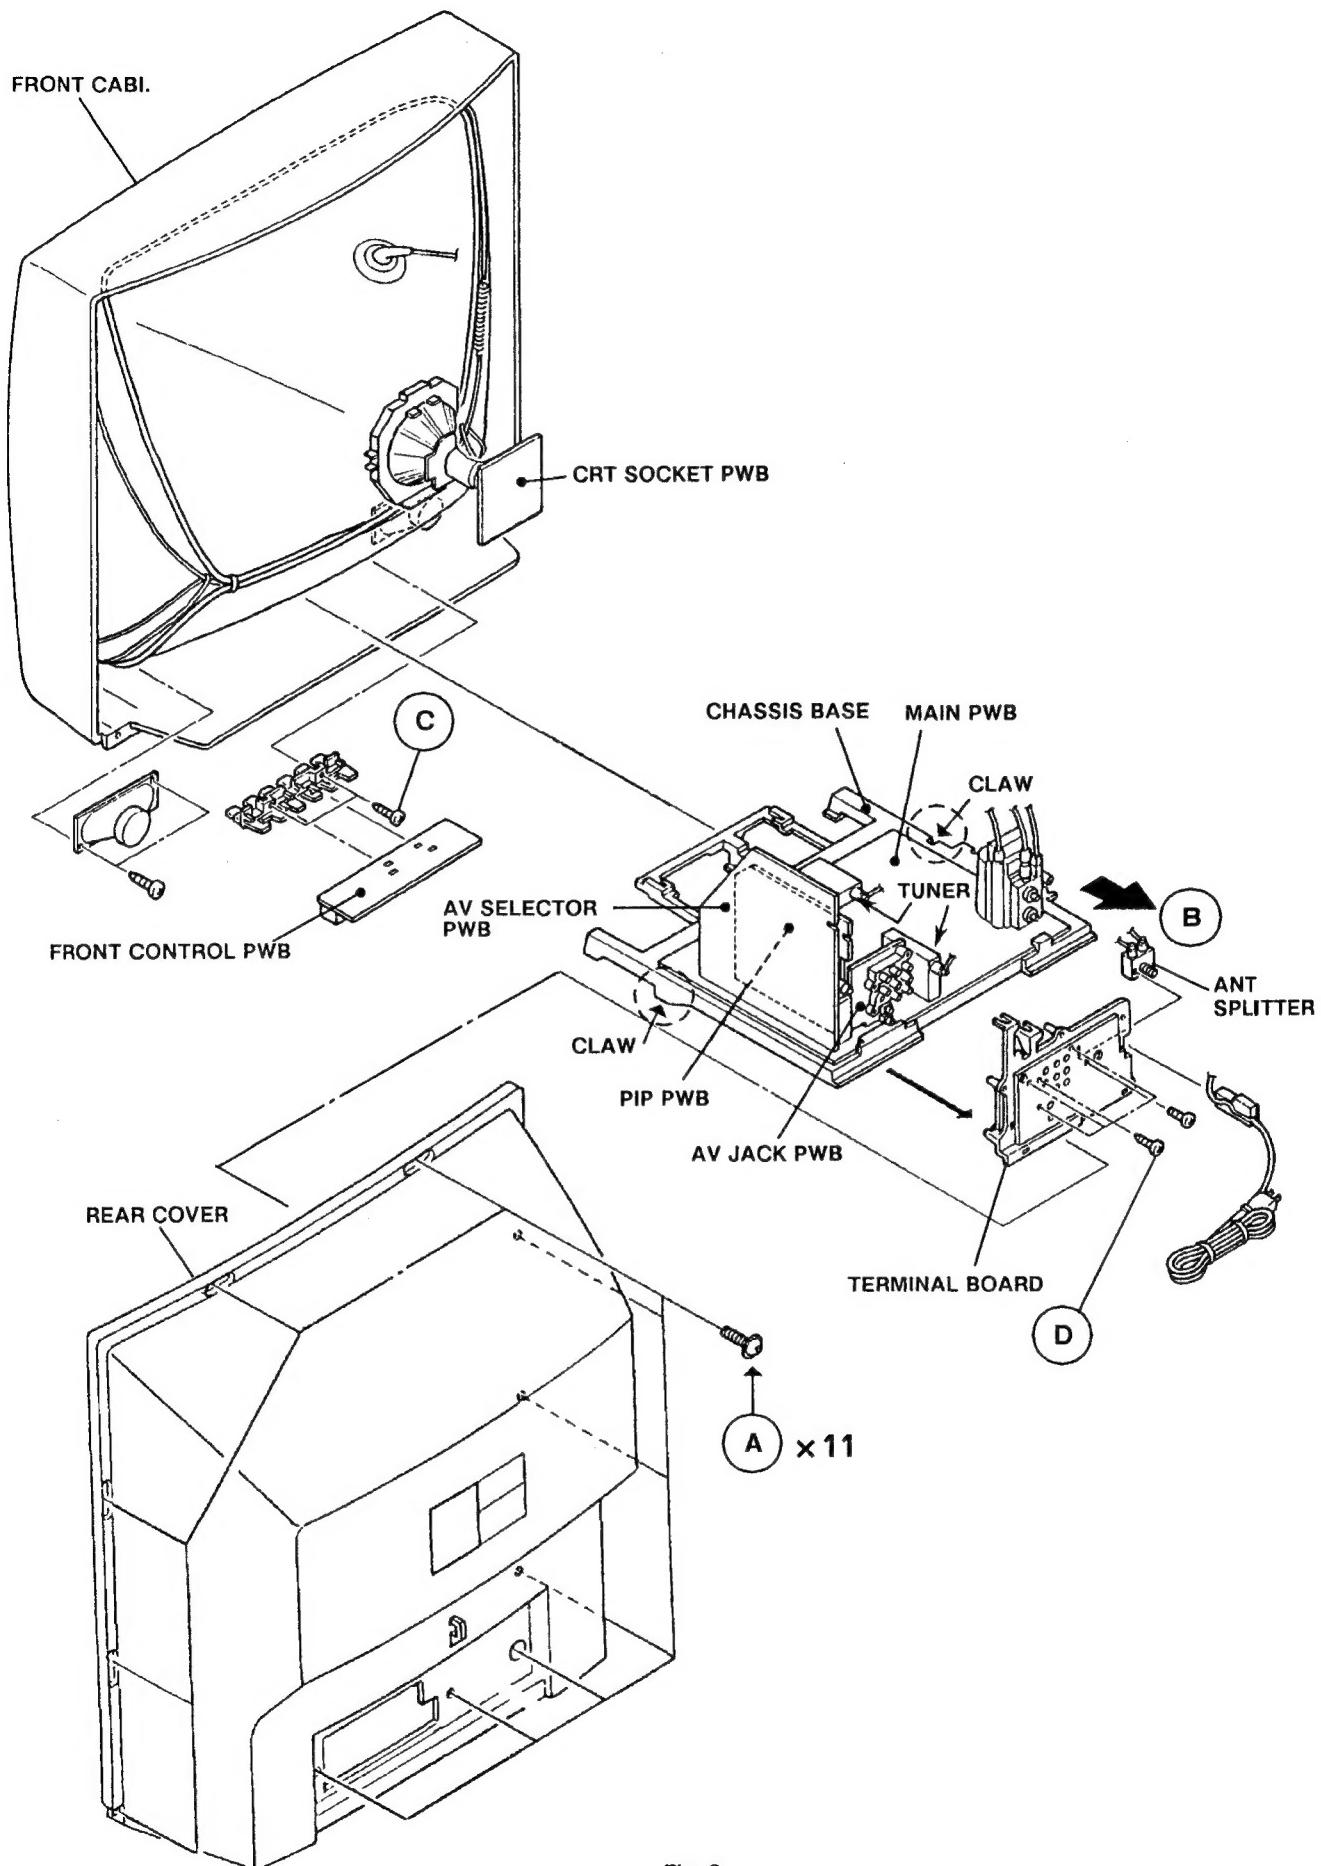

Fig. 2
2. Remove the 11 screws marked (A) as shown in Fig. 2.
- 2. Draw the chassis backward along the rail in the arrow direction marked (B) as shown in the Fig. 2.
- 1. Remove the 2 screws marked (C) as shown in Fig. 2.
- 1. Remove the 4 screws marked (D) as shown in Fig. 2.